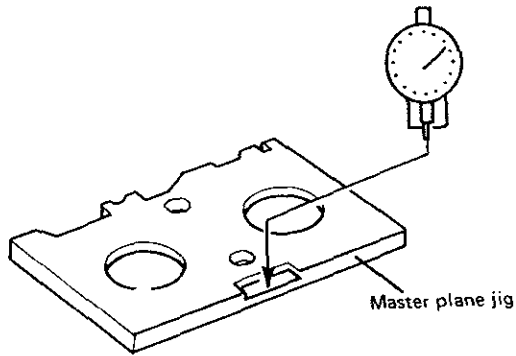

Fig. 14 Master plane jig setting
1. Set the master plane jig as shown in Fig. 14.